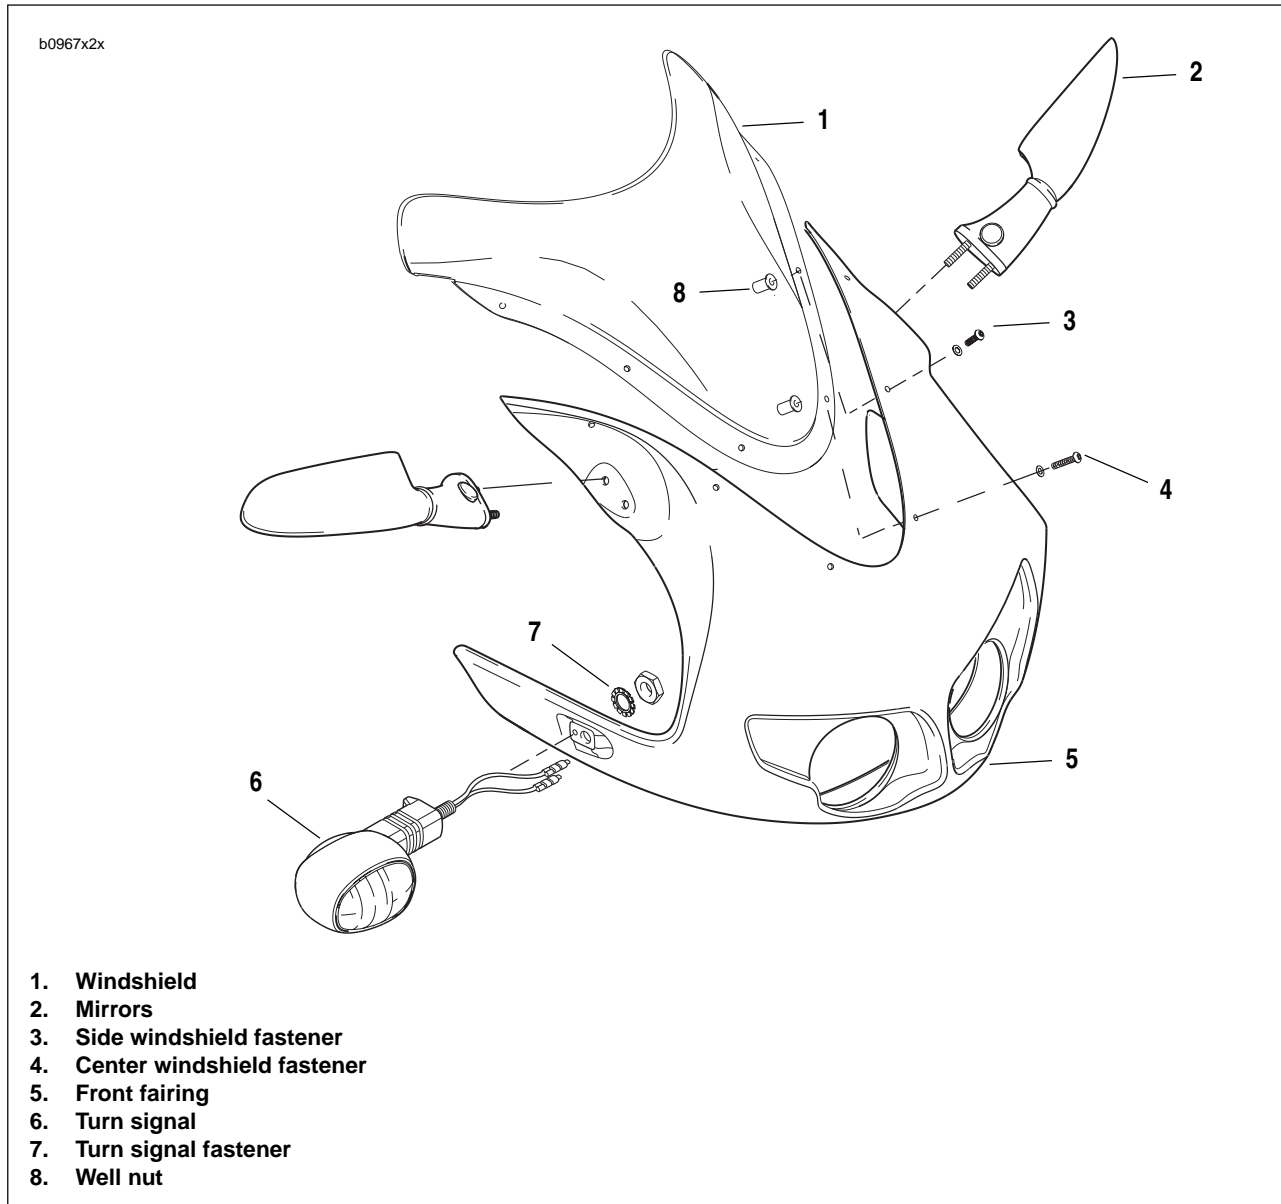

Figure 2-113. Front Fairing and Windscreen
1. See Figure 2-113. Remove two center (4) and four side windscreen fasteners (3) to remove windshield (1).
2. Remove mirrors (2).
3. Remove turn signals (6, 7). See 7.13 TURN SIGNALS and remove front fairing (5).
1. See Figure 2-113. Position fairing (5) onto fairing support bracket and install turn signals (6, 7). See 7.13 TURN SIGNALS.
2. Install mirrors (2) with fasteners and tighten to 72-96 **in-lbs** (8-11 Nm).
3. Install two center (4) and four side windscreen fasteners (3).